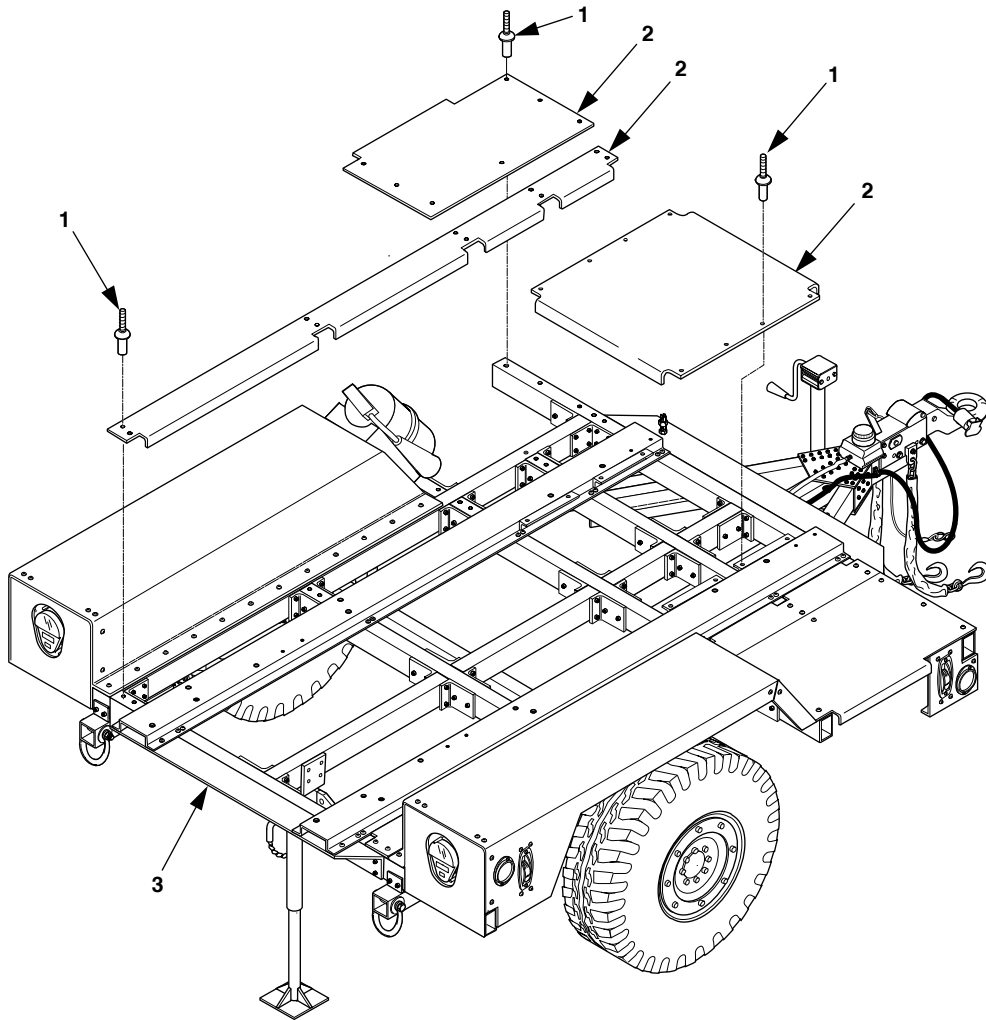

Figure 5-21. PU-797A and AN/MJQ-35A Floor Replacement.
- a. Remove rivets (1, figure 5-21) and floor sections (2) from trailer chassis (3), using ¼" drill.
Place floor section (2, figure 5-21) on trailer chassis (3) and secure with rivets (1).